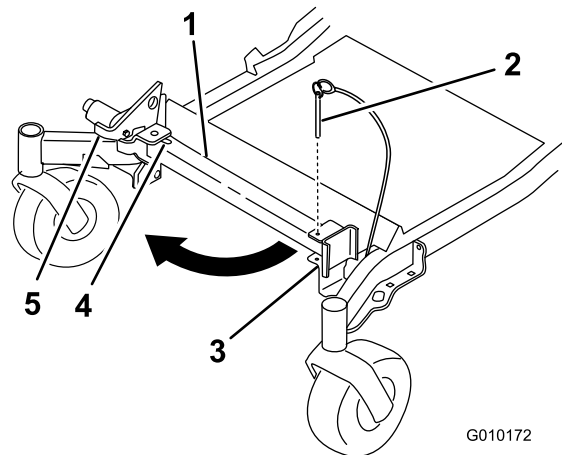
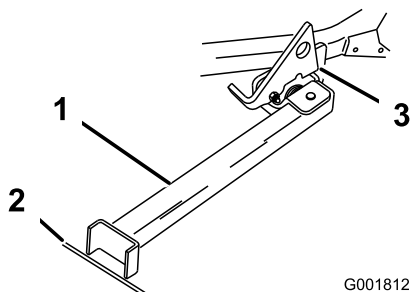

Figure 40
Figure 41
2. Remove the bracket pin (Figure 40).
3. Raise the latch. Swing the stand foot out front and slide stand toward machine, into the bottom of slot (Figure 40 and Figure 41).
4. Set the foot of stand on the ground and rest the latch on the pivot tab (Figure 41).
Note: For best results, place the foot of stand into seams in sidewalks or into the turf (Figure 41).
6. Drive onto the stand. Stop when the latch drops over the tab into the locked position (Figure 41). Once onto the stand, engage the parking brake and turn off the engine.